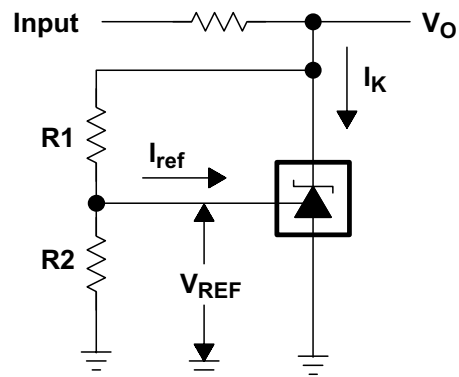

Figure 23. Test Circuit for  $V_{KA} > V_{REF}$ ,  $V_O = V_{KA} = V_{REF} \times (1 + R1/R2) + I_{ref} \times R1$
| $I_{ref(dev)}$ $I_{ref}$ deviation over full temperature range (2)              | $I_K = 10\text{ mA}$ , $R1 = 10\text{ k}\Omega$ ,$R2 = \text{open}^{(1)}$ (see Figure 23)  | TLV431AC                                           |          | 0.05  | 0.3   | $\mu\text{A}$ |
When the device is operating with two external resistors (see Figure 23), the total dynamic impedance of the circuit is defined as:
| $\frac{\Delta V_{REF}}{\Delta V_{KA}}$ | Ratio of V REF change in cathode voltage change            | V KA = V REF to 6 V, I K = 10 mA(see <a href="#">Figure 23</a> )                |                                                                                | -1.5     | -2.7  | mV/V  |      |
| I ref                       | Reference terminal current                                            | I K = 10 mA, R1 = 10 kΩ,R2 = open(see <a href="#">Figure 23</a> )                                 |                                                                                | 0.1      | 0.5   | μA    |      |
| I ref(dev)                  | I ref deviation over full temperature range (2) | I K = 10 mA, R1 = 10 kΩ,R2 = open (3)(see <a href="#">Figure 23</a> )                  | TLV431BC                                                                       | 0.05     | 0.3   | μA    |      |